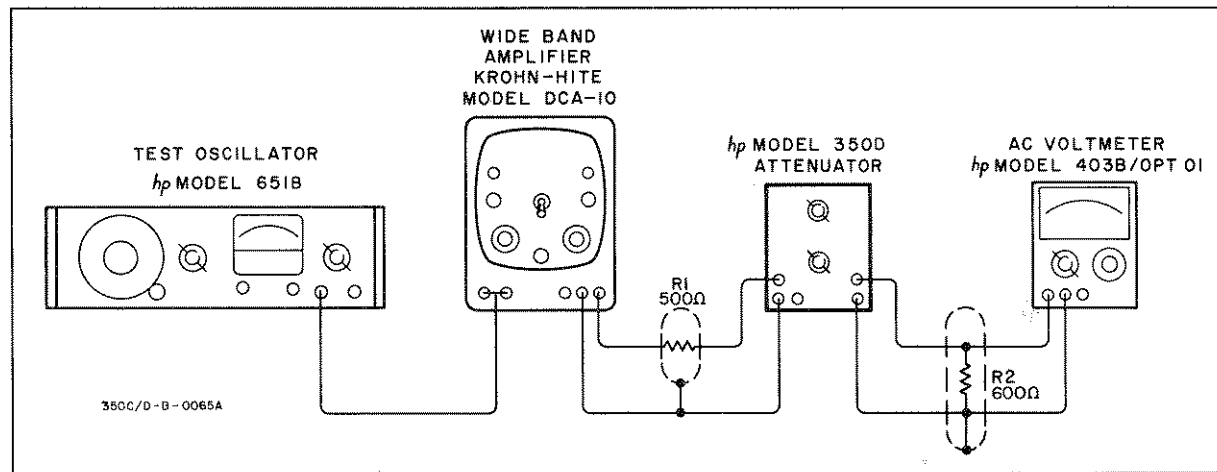

Figure 5-6. AC Performance Test Setup
5-14. The ac performance test setup is illustrated in Figure 5-6. An Oscillator (-hp- Model 651 B), an Amplifier (Krohn-Hite DCA-10), and a battery operated AC Voltmeter (-hp- Model 403B) are required for this test. In addition, (one 500 ohm and one 600 ohm, 10 watt, LPI-10  $\pm$ 2% resistors for the 350D). These resistors must be enclosed in a shield as shown in Figure 5-6. The range-to-range accuracy of the AC Voltmeter from +40 dB to -60 dB must be known to within 0.1 dB at 100 KHz and 1 MHz. Any errors should be
- a. Make test setup illustrated in Figure 5-6.